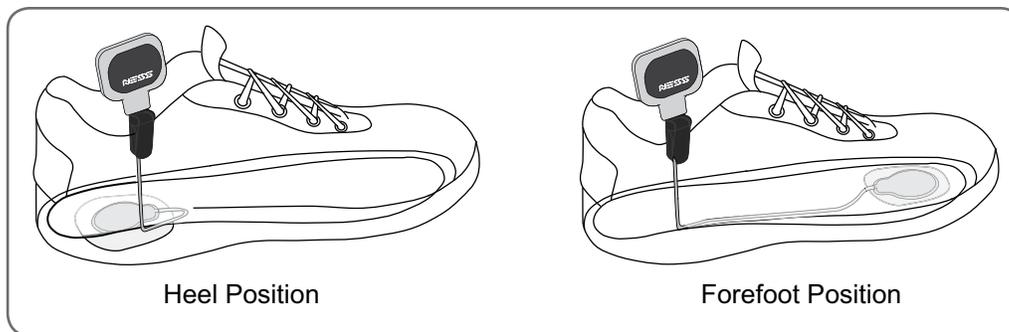

Figure 10-15: Insole covering the pressure sensor and wire. (Left shoe shown.)
5. Lower the insole over the pressure sensor, tucking any excess wire under the insole. See Figure 10-15.